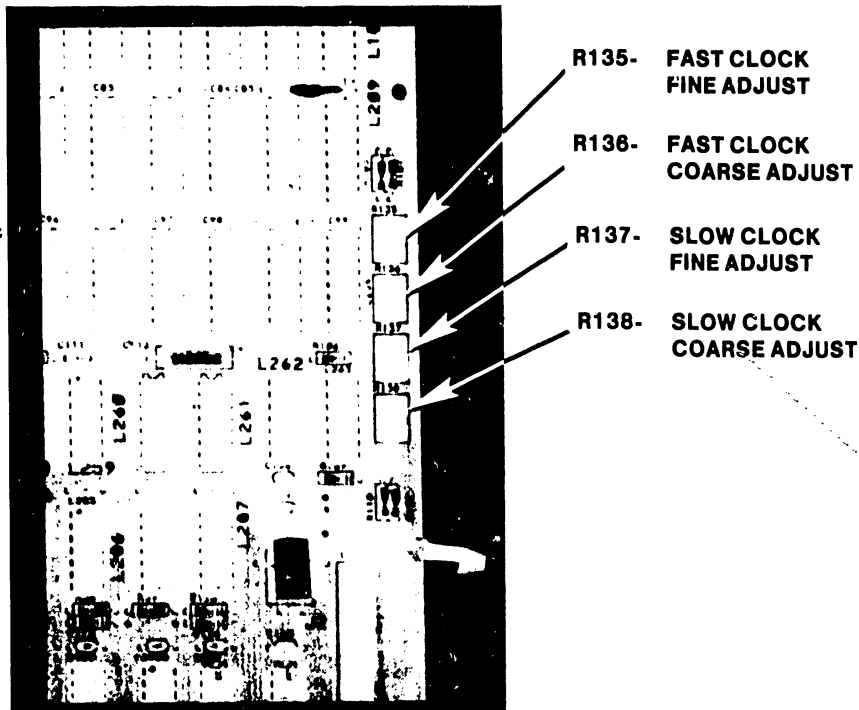

Figure 8-3. Diagnostic Clock Adjustment Pots
6. Adjust R138 (slow clock coarse adjustment) and R137 (slow clock fine adjustment) on the 210-7602 board (figure 8-3) until the leading edge-to-leading edge time of the slow clock pulse is 176 nanoseconds.